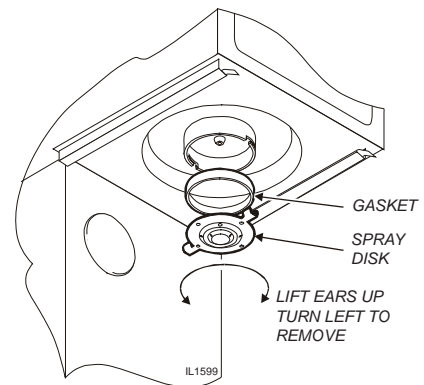

Fig. 8 Cleaning
4. Remove the spray disk from the brew head (See figure 8):